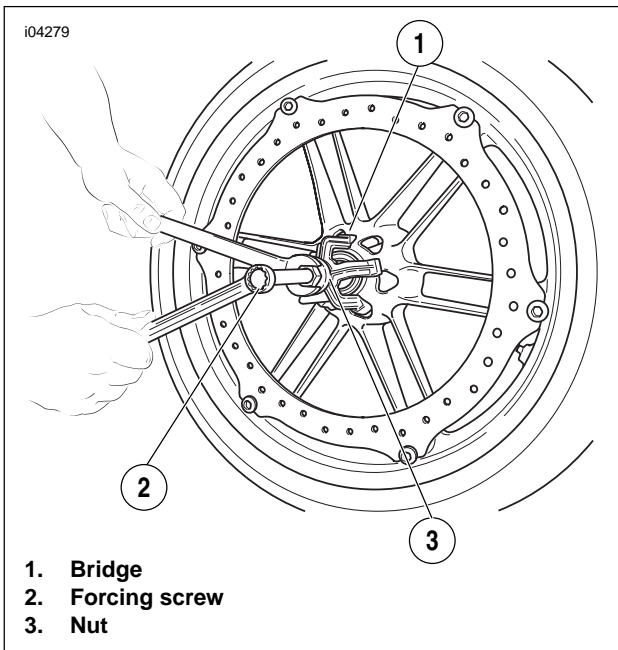

Figure 2-9. Remove the Bearing
8. See Figure 2-9. Place the bridge (1) against the wheel hub.
9. Hold the forcing screw (2), and turn the nut (3) clockwise until the bearing is free of the hub.
10. See Figure 2-9. Loosen the nut (1), and back off the bridge (2). Hold the forcing screw (3) while holding the collet (4) to remove the forcing screw from the collet.